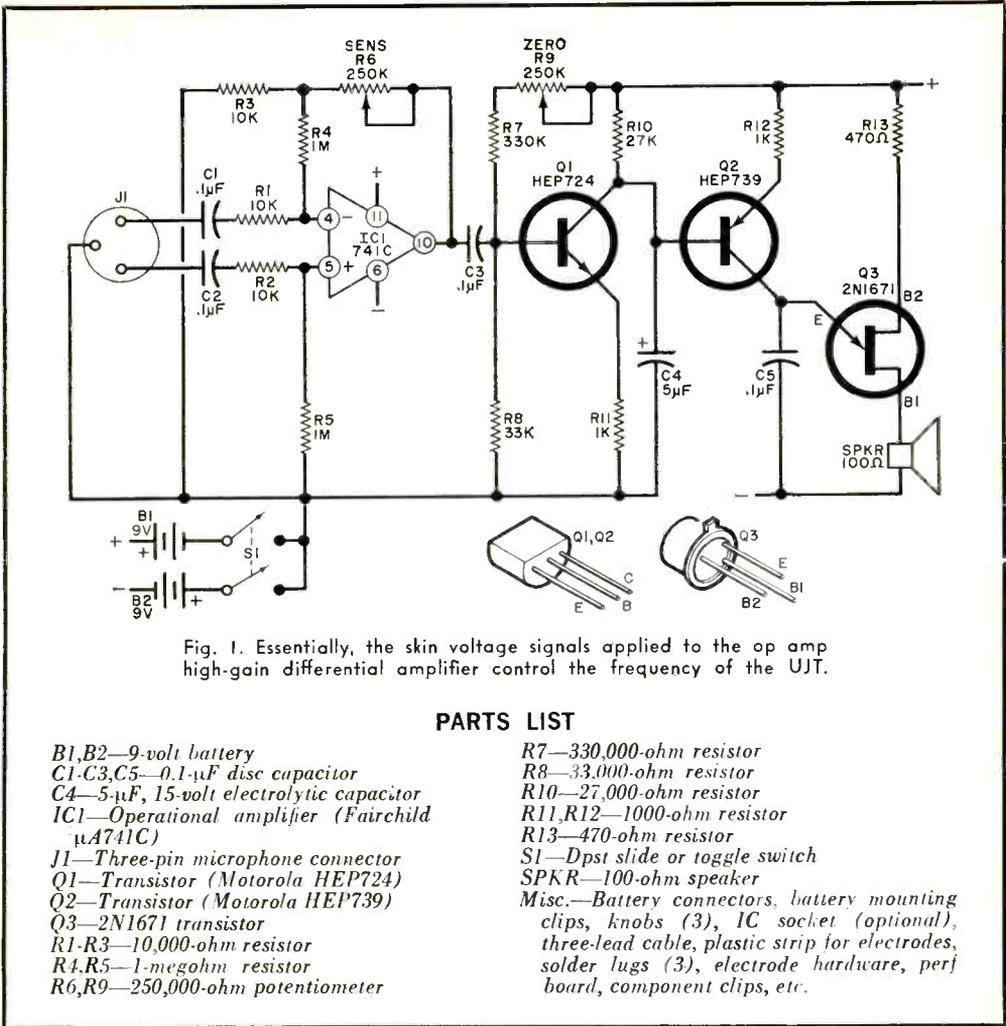

Fig. 1. Essentially, the skin voltage signals applied to the op amp high-gain differential amplifier control the frequency of the UJT.
**Construction.** The circuit of the Muscle Whistler is shown in Fig. 1. The prototype was built on a piece of perf board, though any other method may be used. The components are mounted on small clips, except that a 14-pin dual in-line socket may be used for the IC if desired. The input connector (J1), the speaker, the zero and sensitivity potentiometers (R9 and R6, respectively), and the on-off switch (S1) are mounted on the front panel of the selected chassis.
The circuit for a basic alarm is shown in Fig. 1. Transistors Q1 and Q2 form an audio oscillator with the speaker representing the collector load for Q2. The frequency of oscillation is determined by C4 and the voltage across C3. The charge on C3 comes from the positive line through R3, R4, and
Fig. 1. The siren-like wail is produced by the changing voltage on capacitor C3, which is controlled by the operation of K1. Operation of SCR1 turns on the system.